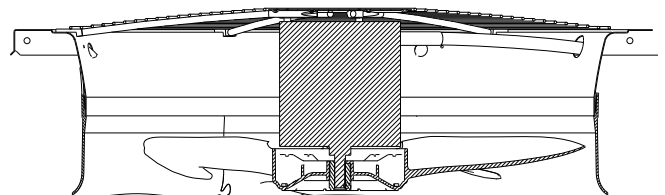

Fig. 27 — Condenser Fan Adjustment
2. Remove condenser-fan assembly (grille, motor, and fan). See Fig. 27.